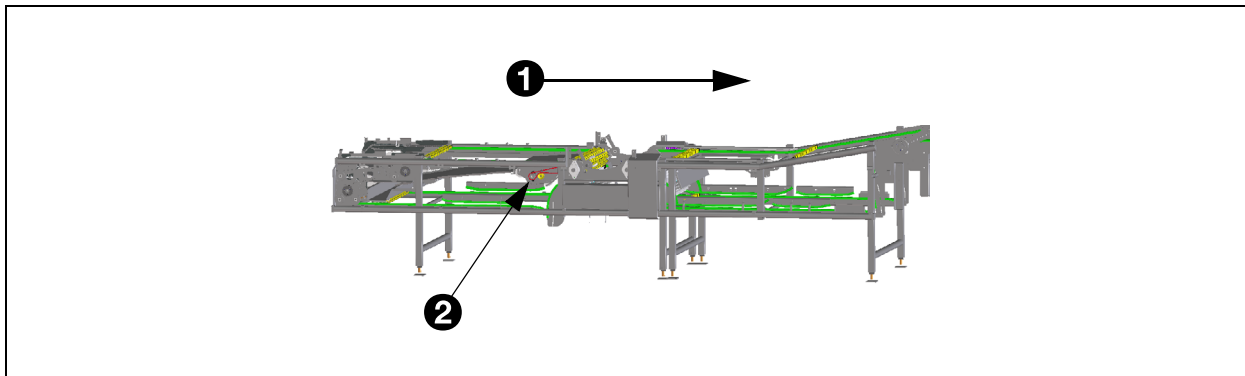

Fig. 43 - Right-hand side of the infeed unit
The arrow (1) in the illustration shows the direction of the egg travel. See fig. 43.